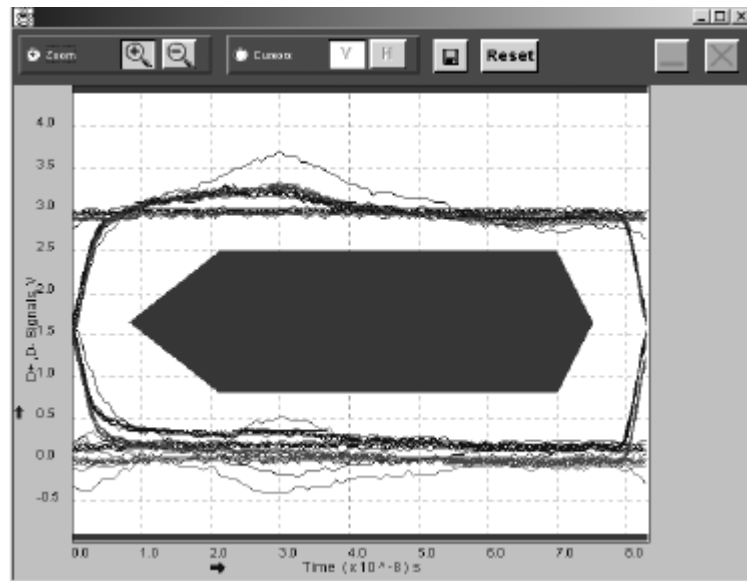

Figure 2-64: Eye diagram for full speed signal quality for downstream testing
4. Click on the Eye Diagram option in Results Summary or the Details to view the Eye Diagram. Figure 2-64 shows the eye diagram.